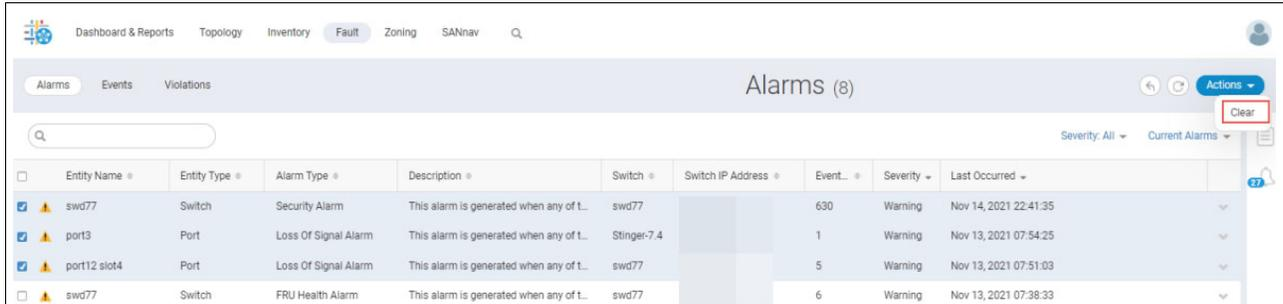

Figure 5-181 Clear Bulk
2. Select **Clear** from the action menu of an alarm to clear a single alarm. Select **Bulk Select** from **More ...** to select multiple alarms, and then select **Clear** from the **Actions** drop-down menu (Figure 5-181).